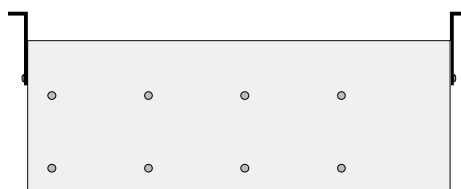

Figure 3 – Wall Mount Bracket Positions
1. Attach mounting brackets to the Battery Backup and/or Add-on Battery in a wall mounting using the supplied mounting bracket screws (refer to Figure 3).